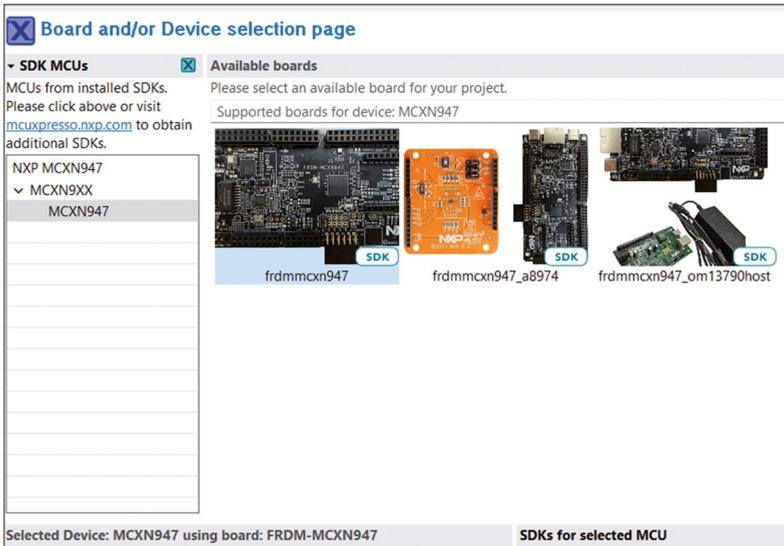

Figure 2.9: Select board frdmmcxn947.
- Click to select board **frdmmcxn947** (Figure 2.9). Click **Next**.